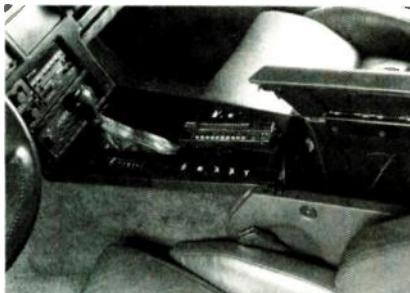

FIG. 13—THE CD CHANGER'S remote control is stowed away in the center console.
*Jockey*'s operation is controlled via a wired remote control that is stowed away in an accessory compartment in the center console. See Fig. 13.